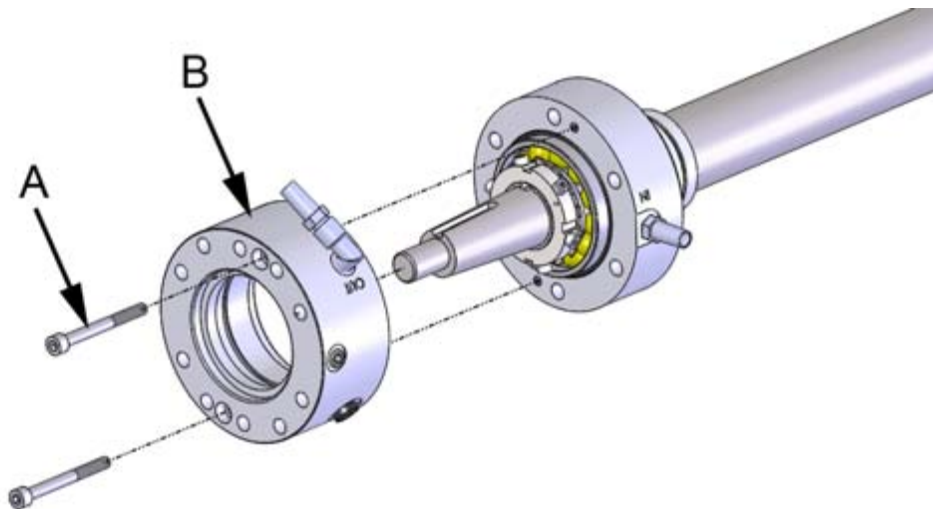

Figure 18. Installing the bearing housing cover
9. Push the bearing housing cover into place (figure 18, point B).
10. Fasten the bearing housing cover with two M6 screws to a tightness of 9 Nm (figure 18, point A).